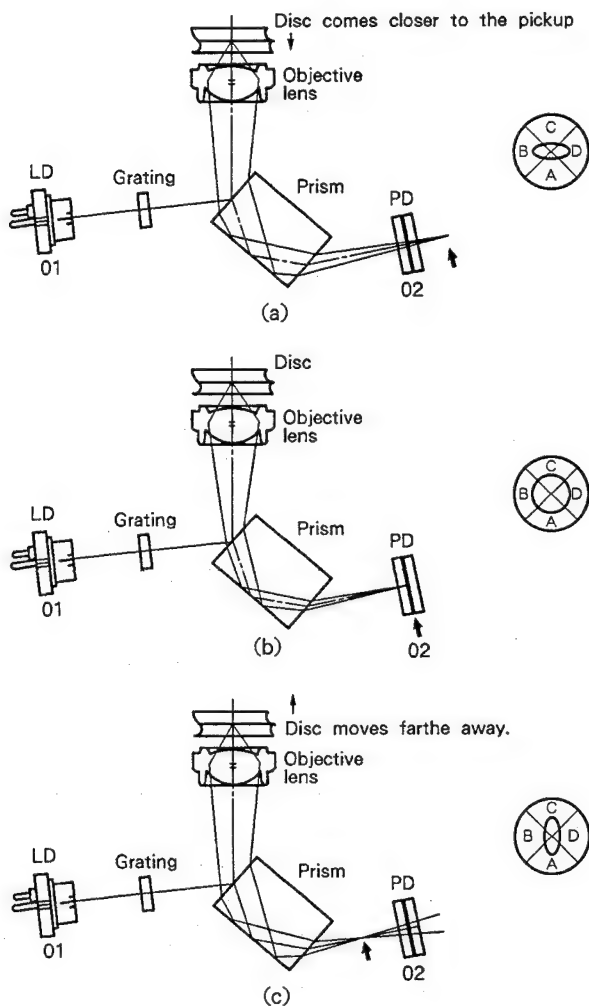
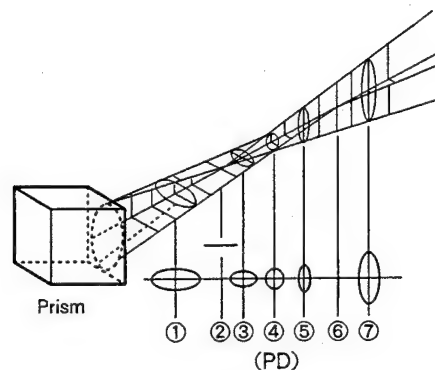

Fig. 9-4
Fig. 9-5 Quadrangular prism
In this system, the data on the disc, which is represented by pits, is converted into an electrical signal at the photodiode according to the intensity (brightness) of the reflected beam. The RF signal is then produced from this electrical signal by the arithmetic-logic circuit. Fig. 9-4 shows how the focus signal is detected.
Fig. 9-5 shows the characteristics of the quadrangular prism. It functions as a lens in the vertical direction in the figure, but not in the horizontal direction.
① through ⑦ shows the shape of the beam at each point. Between points ② and ⑥, which are in a straight line, the beam is circular at point ④. If we assume that Fig. 9-5 shows mode (b) of Fig. 9-4, that means the beam is circular because the photo diode is located at point ④.
In mode (a) of Fig. 9-4, the location of the photo diode is closer to the quadrangular prism than it was in Fig. 9-5. That means the shape of the beam is the same as that of point ③ (an ellipse that has a longer width than height). In mode (c) of Fig. 9-4, the shape of the beam is that of point ⑤, an ellipse that has a longer height than width.